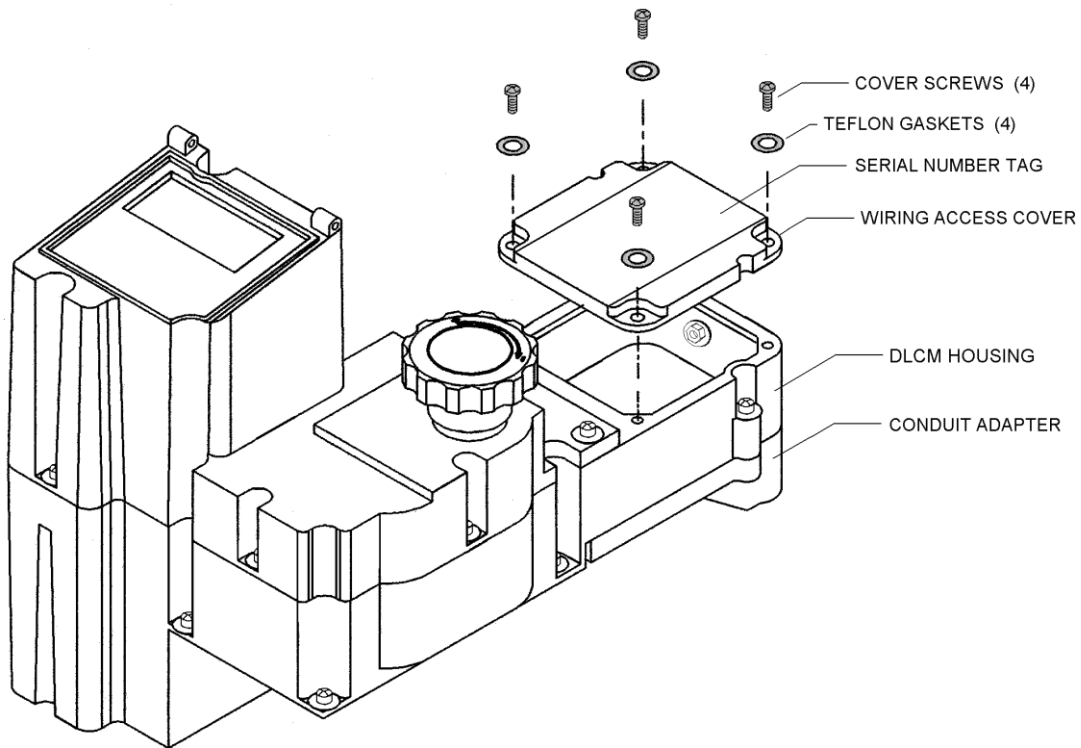

Figure 32 – Wiring Cover Access
3. Remove the four screws and Teflon Gaskets that hold the wiring access cover to the DLC (refer to **Figure 32**).